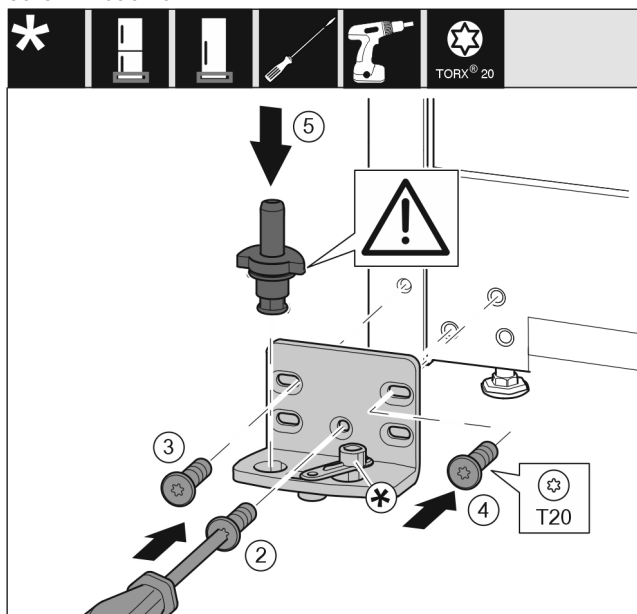

Fig. 20
- Place the swap bearing block on the other side and use a screwdriver to screw it on. Start with the screw Fig. 20 (2) at the bottom in the middle.
- Tighten screw Fig. 20 (3) and screw Fig. 20 (4).
- Insert the bearing bolt Fig. 20 (5) completely. Ensure that the latching cam is pointing towards the rear.